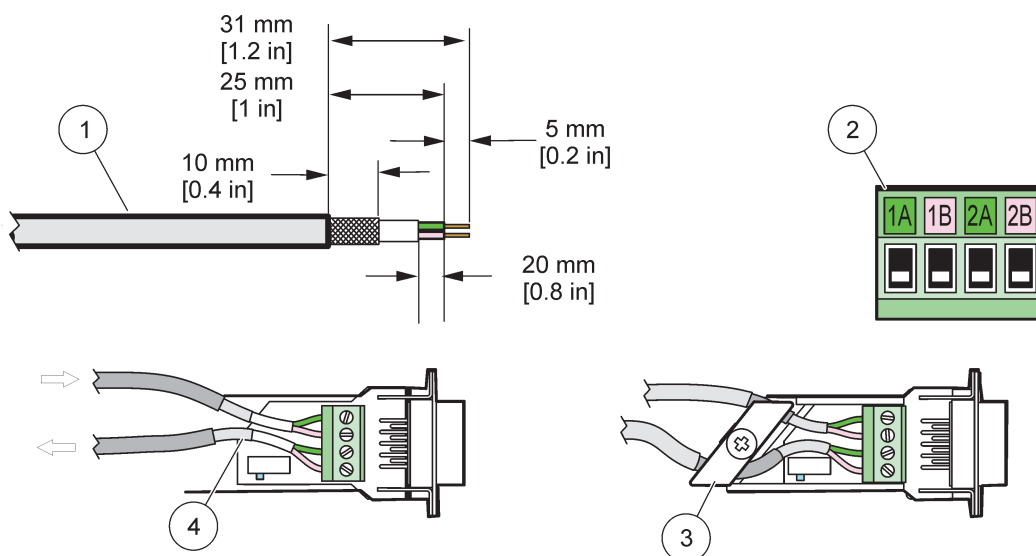

Figure 29 Removing the insulation from the communication cable
- 1. Strip the insulation from the communication cable (Figure 29).